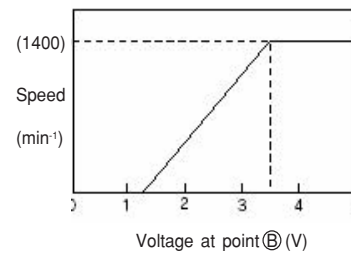

Fig. 7-3
- The pulse is converted into the analog voltage by the R751 and C751 and applied to the fan motor as the speed command voltage. Fig. 7-3 shows the relation between the voltage at the point B and the speed. (Some differences will occur due to the condition of the unit.)
- The fan motor outputs the feedback pulse of the speed, which is input into the pin (14) on the micro computer. This pulse is equivalent to a frequency of $12/60$ speed. (Example: $1000 \text{ min}^{-1} \times 12/60 = 200 \text{ Hz}$)